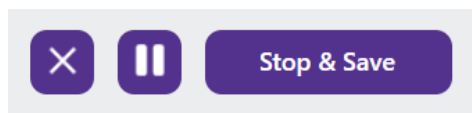

Figure 17. Buttons to cancel, pause or finish the recording.
9. Monitor the baseline during recording; if stepping, drifting, or noise is observed then the recording should be either paused and then resumed once the baseline is re-established, or cancelled and a new recording started once the issue is resolved (Figure 17).
10. When you have recorded the required number of blockades, click 'Stop & Save' (Figure 17).